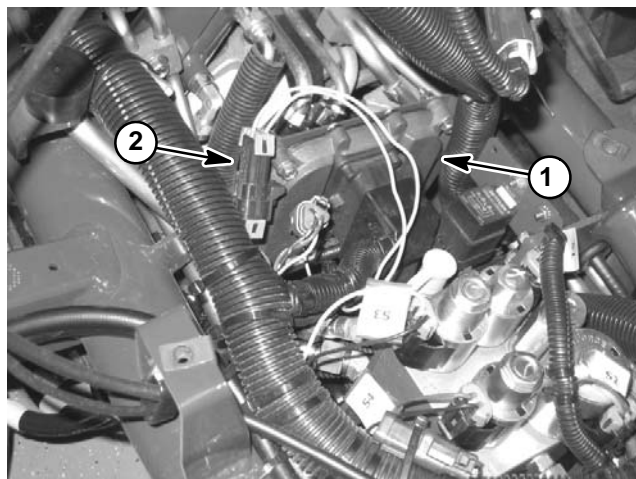

Figure 14
2. Remove right side cover next to operator seat to allow access to the TEC controller. Locate wire harness and connectors near TEC controller. Carefully unplug loopback connector from harness connector (Fig. 14).